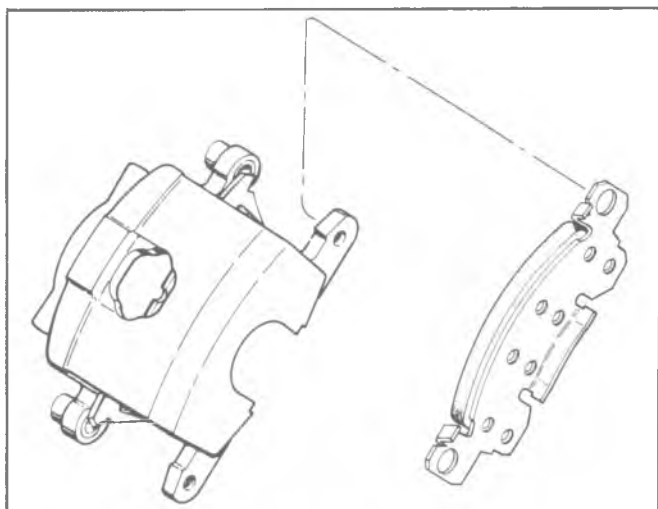

Fig. 5-28—Installing Outboard Shoe
5. Position the outboard shoe in the caliper, with the ears at the top of the shoe over the caliper ears and the tab at the bottom of the shoe engaged in the caliper cut-out (see fig. 5-28). Be sure to note right and left brake shoes.